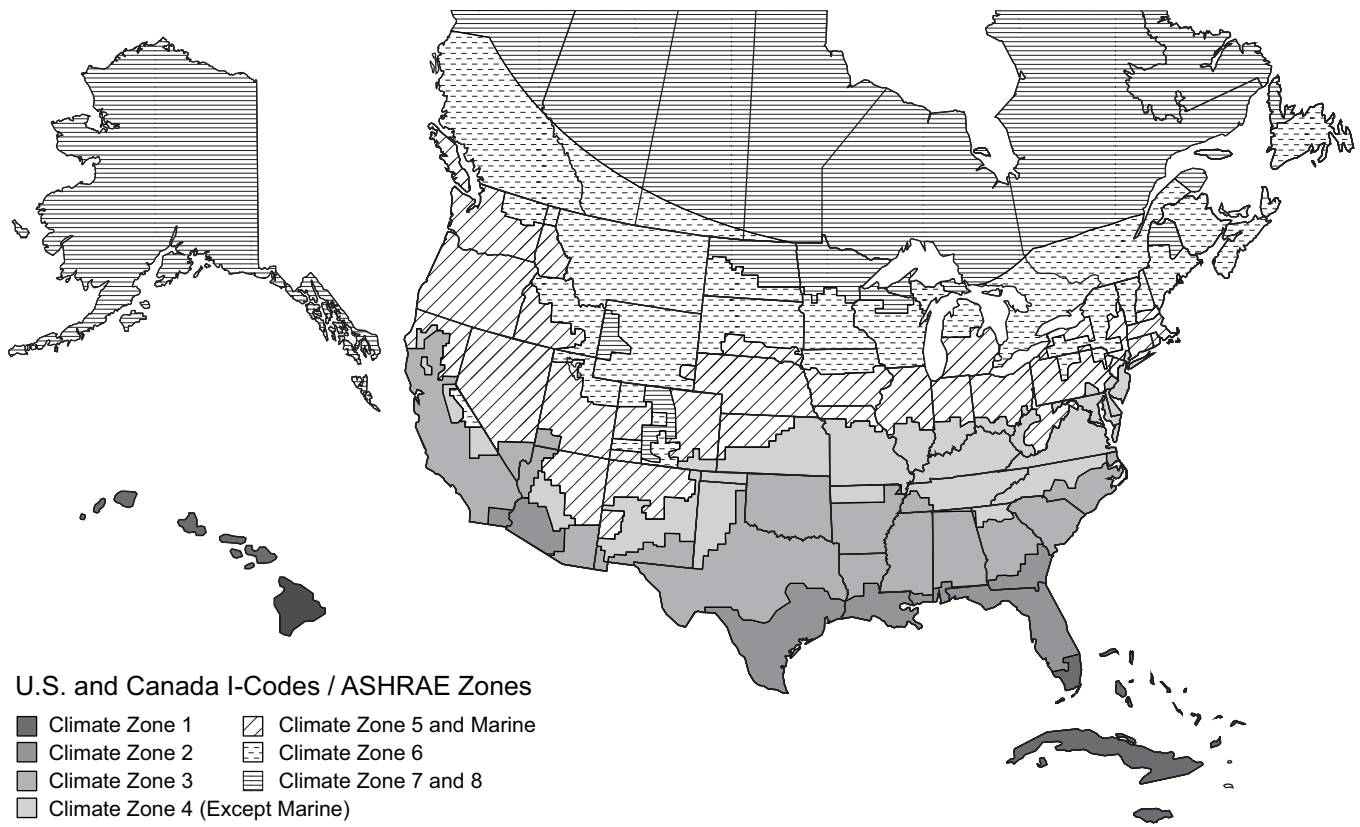

Fig. 76 — U.S. and Canada Climate Zones
- a. Refer to Fig. 76 for map of U.S. and Canada climate zones.